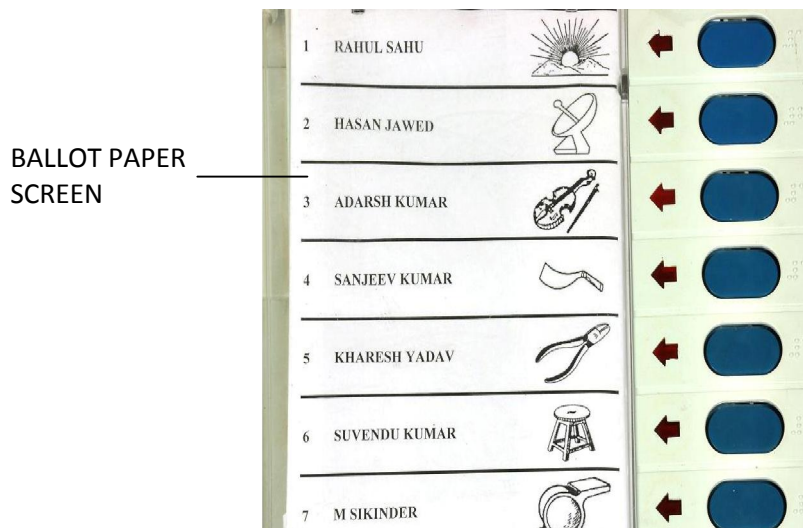

Fig.18 Properly Aligned Ballot Paper
- Place the ballot paper in the space provided for the purpose on the upper side of the top cover. Align the ballot paper properly so that each candidate's name and his / her symbol are in line with the corresponding candidate's lamp and button. After ensuring this alignment, close and press fit the ballot paper screen to secure the ballot paper firmly underneath that screen (Fig. 18).